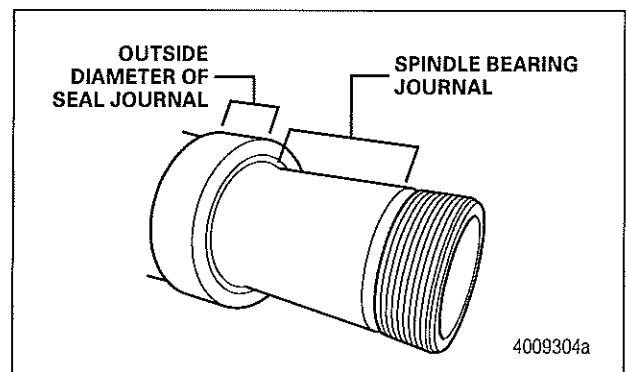

Figure 18
2. Apply a light coat of approved oil to the spindle bearing journal and outside diameter of the seal journal. Figure 18.